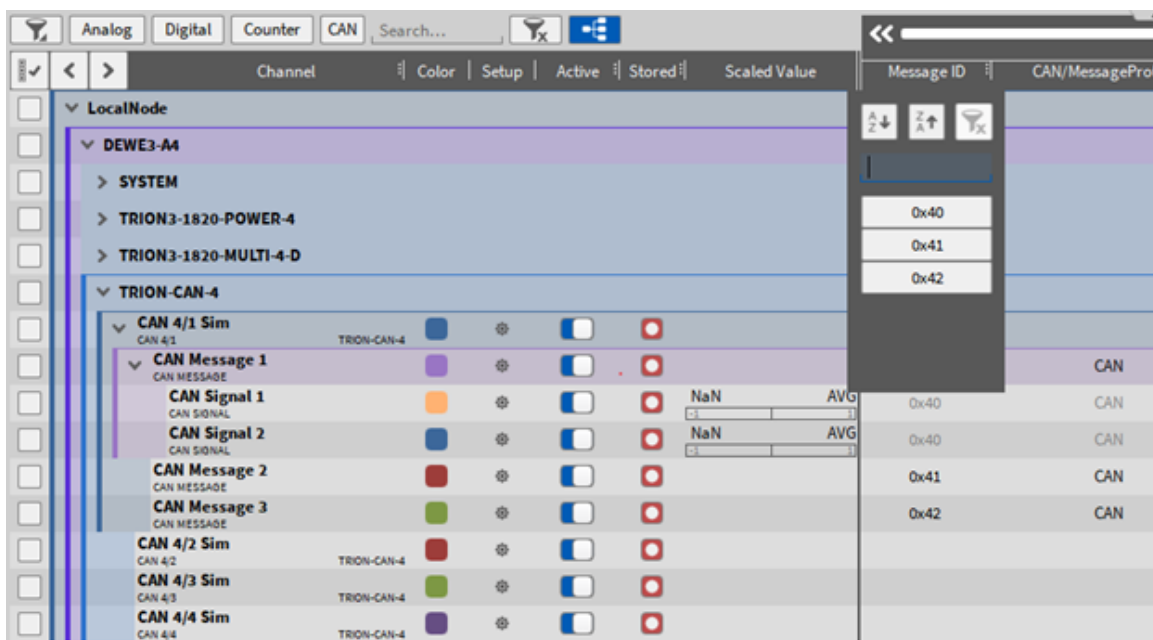

Fig. 4.54: CAN messages ID
- In the channel list it is also possible to filter the available CAN message IDs to get a better overview or to display only the CAN messages that are needed for the current application (see Fig. 4.54)